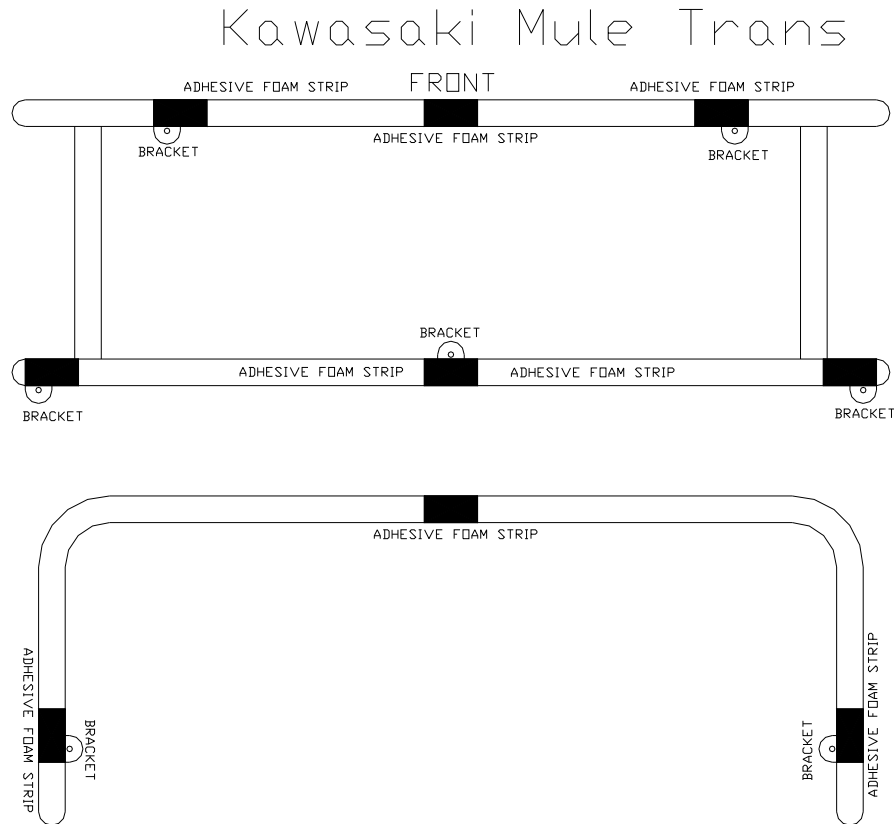

Figure 3
2. Using **Figure 3** Below – place UTV Roof Mounting Brackets around roll cage bar and using a marker, mark the position of the holes needed in the roof for each Roof Mounting bracket. **Where panels overlap, mark on panel which will contact the mounting bracket. Second hole will be drilled later.**
5. Cut (7) 3” strips of adhesive foam and apply to roof next to the hole to prevent roof rattling once mounted. Foam should run in the direction of the roll cage as shown in Figure 3 above.
7. Prior to attaching the roof mount brackets, cut the remaining adhesive foam in 1/3 and apply one section to the roof in the center of the roof where roof and each roll cage bar meet as shown in Figures 3 above. If additional tape is required to prevent rattling it can be purchased from any hardware store as window sealant foam tape.